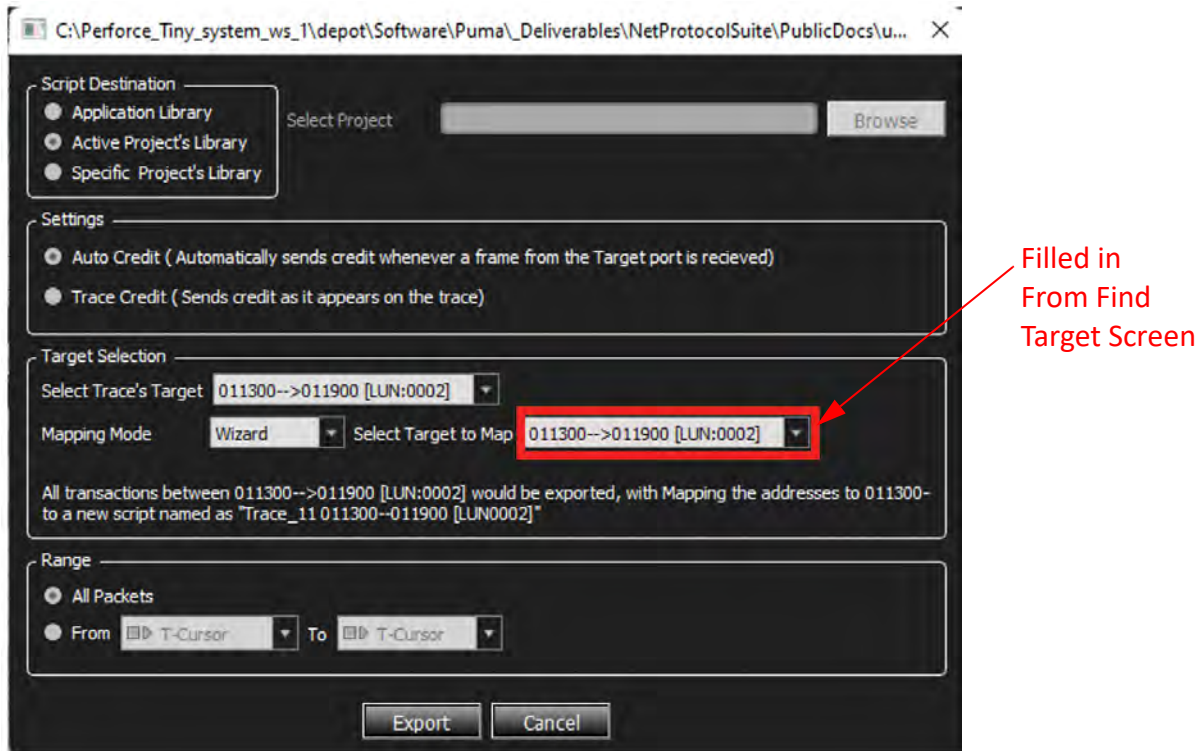

Figure 8.43: Export Script Dialog with Selected Target
6. Select the desired target from the list and click OK. The system will close this dialog and populate the Export to Script dialog with the chosen target information. See Figure 8.43.